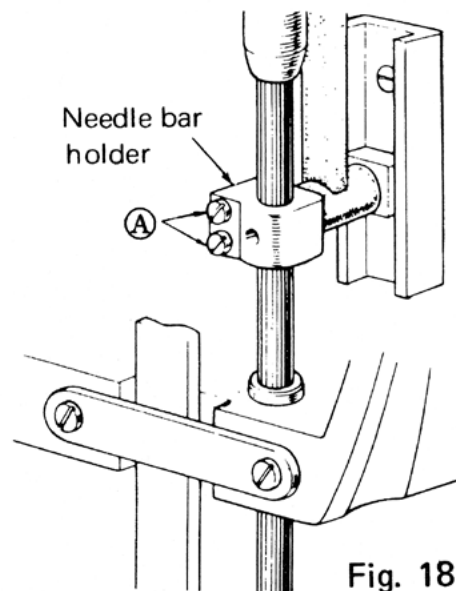

Fig. 18
- (3) To adjust the height of needle, loosen the screw (A) of the needle bar holder (Fig. 18) and move the needle bar up and down by hand.